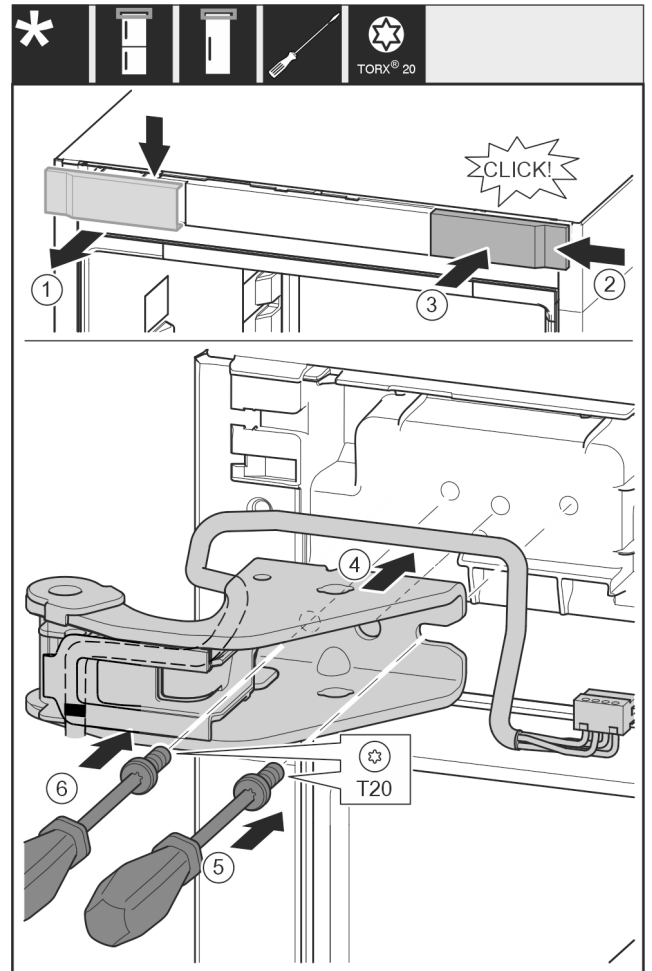

Fig. 32
- ▶ Take off the cover to the front from above. Fig. 32 (1)
- ▶ Rotate the cover 180° and clip onto the other side from the right. Fig. 32 (2)
- ▶ Latch the cover into place. Fig. 32 (3)
- ▶ Position the upper bearing bracket. Fig. 32 (4)
- ▶ Insert the screw with a T20 screwdriver and tighten it. Fig. 32 (5)
- ▶ Insert the screw with a T20 screwdriver and tighten it. Fig. 32 (6)